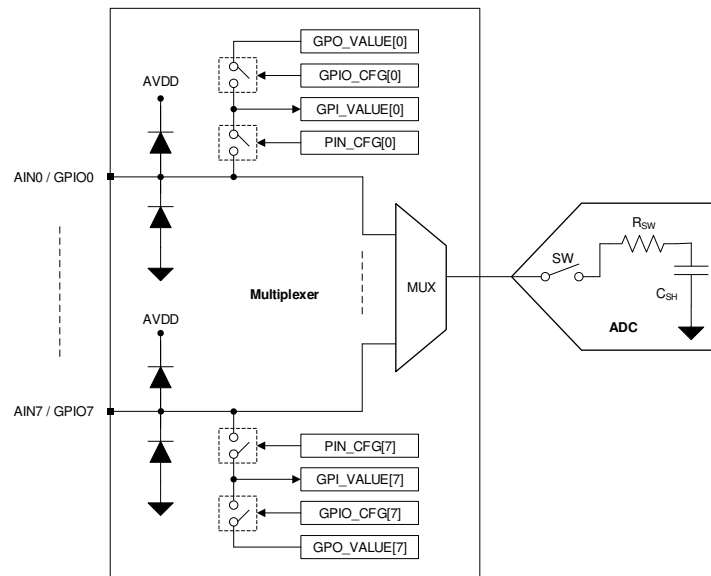

Figure 7-1. Analog Inputs, GPIOs, and ADC Connections
The eight channels of the multiplexer can be independently configured as ADC inputs or general-purpose inputs/outputs (GPIOs). As shown in Figure 7-1, each input pin has ESD protection diodes to AVDD and GND. On power-up or after device reset, all eight channels of the multiplexer are configured as analog inputs.
Figure 7-1 shows an equivalent circuit for the pins configured as analog inputs. The ADC sampling switch is represented by an ideal switch (SW) in series with a resistor ( $R_{SW}$ , typically 150  $\Omega$ ) and a sampling capacitor ( $C_{SH}$ , typically 30 pF). During acquisition, the SW switch is closed to allow the signal on the selected analog input channel to charge the internal sampling capacitor. During conversion, the SW switch is opened to disconnect the analog input channel from the sampling capacitor.
To enable write access to the configuration registers for diagnostics, write 0x96 in the DIAGNOSTICS\_KEY register. To enable bit-walk test mode, configure BITWALK\_EN = 1b. In the bit-walk test mode (see Figure 7-1), the sampling switch (SW) remains open and the test voltage is applied on the sampling capacitor (CSH) during the acquisition phase of the ADC. In diagnostic mode, the conversion process of the ADC remains the same as normal device operation. The ADC starts the conversion phase on the rising edge of  $\overline{CS}$  and outputs the code corresponding to the sampled test voltage. The output code of the ADC is expected to be proportional to the test voltage, as shown in Equation 2, after adjusting for DC errors (such as INL, gain error, offset error, and thermal drift of offset and gain errors).